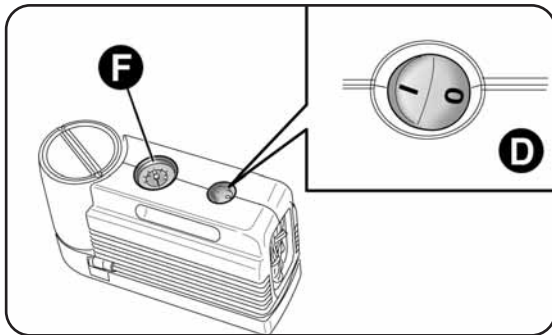
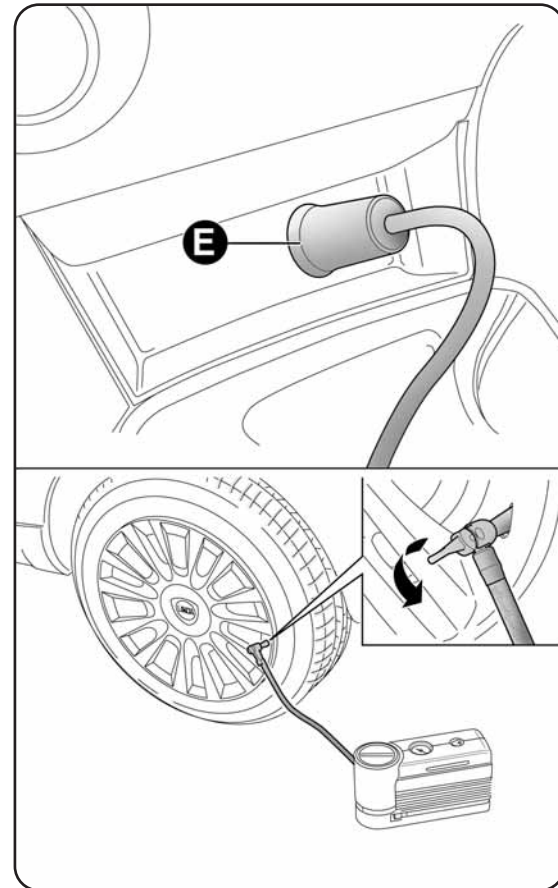

fig. 5
fig. 6
- make sure that switch D-fig. 5 on the compressor is in position 0 (off), start the engine, insert pin E-fig. 6 into the current socket and switch on the compressor by placing switch D-fig. 5 in position 1 (on)
Inflate the tyre to the pressure specified in the “Inflation pressure” paragraph, in chapter “6”. For a more accurate reading, check pressure gauge F-fig. 5 with the compressor off;
The compressor may also be used for restoring pressure only. Release the quick coupling and connect directly to the tyre valve fig. 6; in this way, the cylinder will not be connected to the compressor and no sealing fluid will be injected.